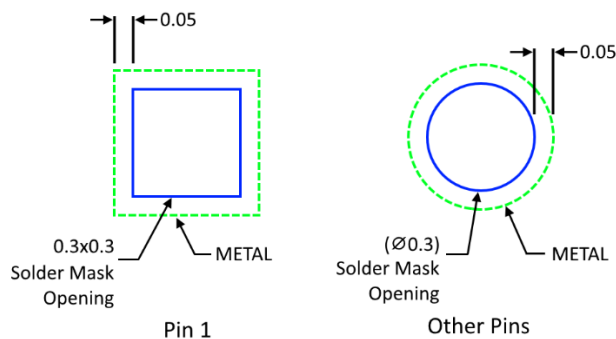

Figure 24. Solder Mask Details
- Use solder mask defined pads to allow a solid grounding plane under the part. See Figure 24 for recommended solder mask opening.